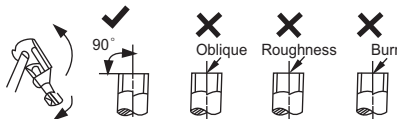

Fig. 7 – Cut the Pipe
2. Cut the pipe, with a pipe cutter, at 90 degrees (see Fig. 7).